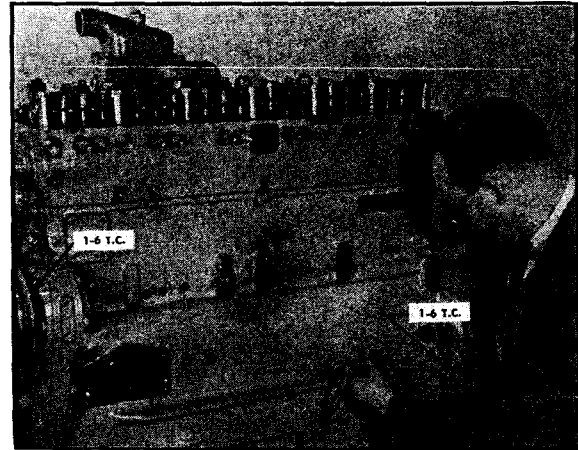

Fig. 12-80. 1-6 TC marks on flywheel and flywheel housing
1. As a double check to be sure that all units have been assembled for correct gear train and camshaft timing, turn the flywheel to index the 1-6 T.C. marks on the flywheel and flywheel housing. Fig. 12-80.